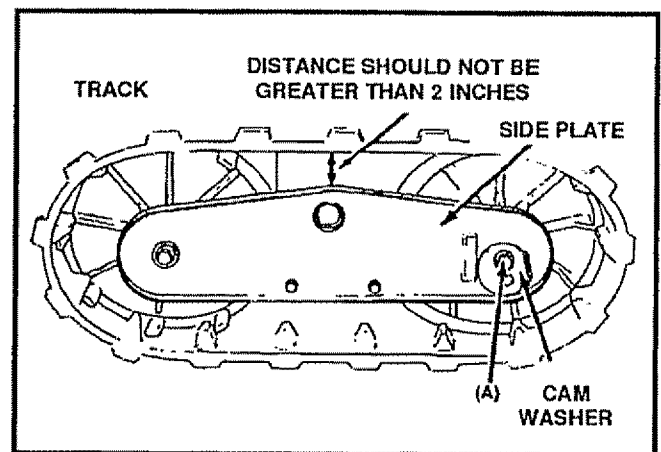

FIG. 35
- Loosen the bolts (A) (See Fig. 35) on both sides of the track assembly.